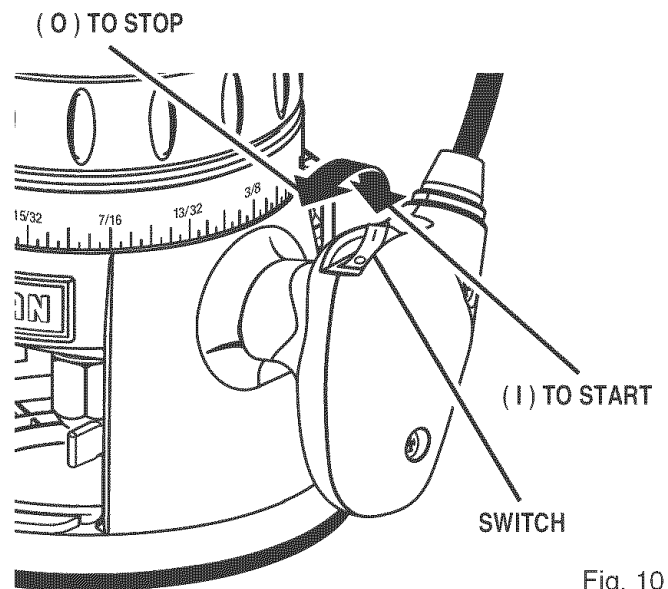

Fig. 10
- *To start router:* Press the switch to the I position. *See Figure 10.*
- *To stop router:* Press the switch to the O position. *See Figure 10.*